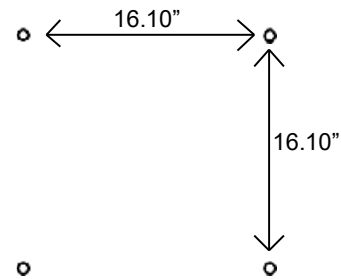

Figure 6
1. On a concrete pad or other stable mounting platform, drill 4 holes according to the mounting dimensions given in the diagram below. (Figure 6)